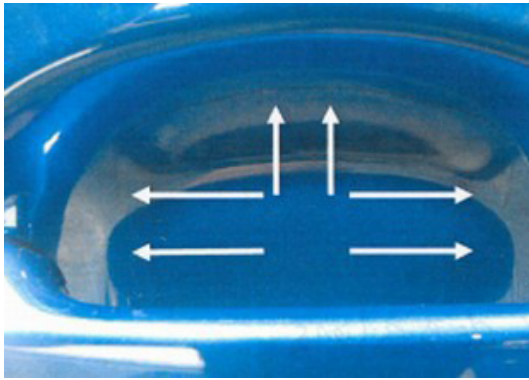

Figure 1
1. Spray the vehicle door cup and the film material with the wetting agent to prevent the adhesive side from sticking to itself. Place the door cup in the handle opening with the notch at the bottom of the cup. See figure. 1 & 2. Align top or bottom edge of the material with the top or bottom edge of the opening. Use your soap/water solution to adjust placement. Spray the outside on the door cup and/or the tool with soap and water to aid in the installation process.